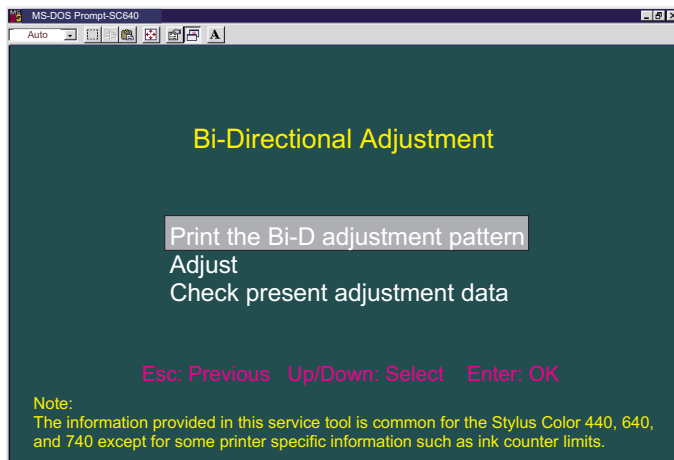

Figure 5-32. Bi-D Adjustment Menu
- By using the Up/Down key, select **Adjust** on the Bi-D adjustment menu (Figure 5-32). Then the screen below appears.
- Press the Esc key once. The current screen returns to the Bi-D adjustment menu. (See Figure 5-32.)